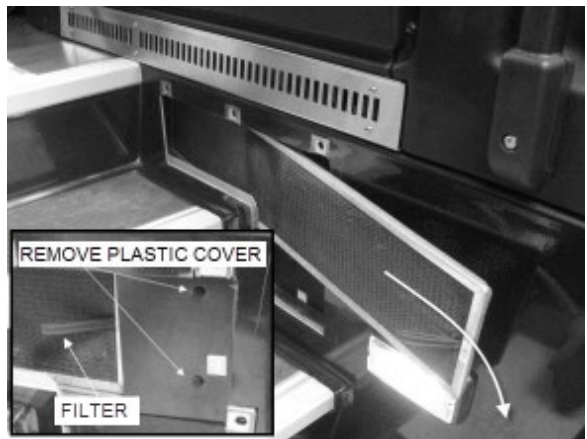

FIGURE 26: REMOVING DRIVER'S SECTION AIR FILTERS
recirculating air filter (FIGURE 26). Doing so will give you access to the fresh air filter (see item 18, Figure 91).